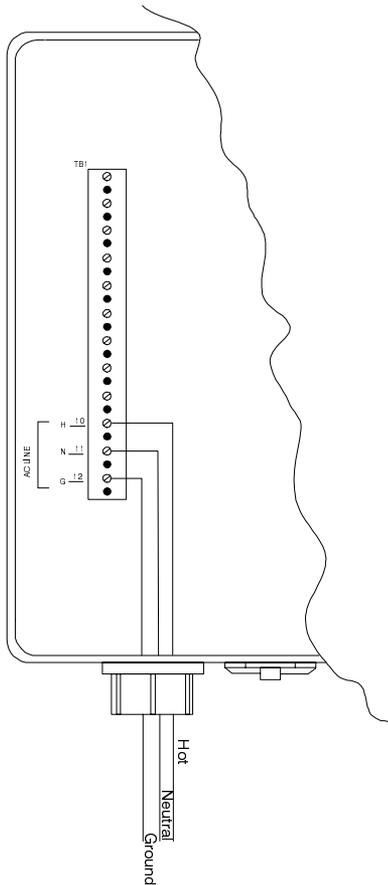

Figure 3-4 AC Power Wiring
3. Connect the AC line to terminals 10, 11, and 12 of the AC power terminal strip (see Figure 3-4). Connect the hot (black) lead to **H** (terminal 10), the neutral (white) lead to **N** (terminal 11), and the ground (green) lead to **G** (terminal 12).